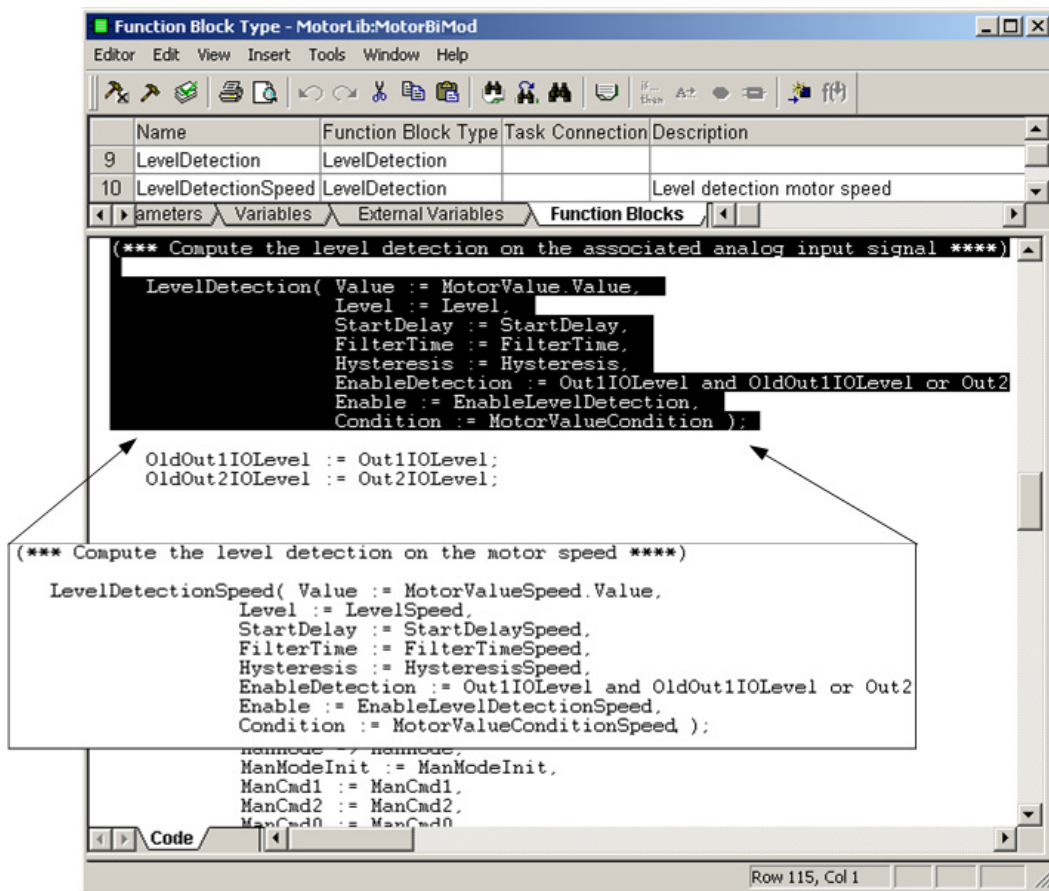

Figure 136. Level detection functionality added to the MotorBiMod function block type
4. According to Figure 136, declare the new function block (LevelDetectionSpeed), change the function block name in the code pane and declare the required variables. Connect the parameters by right-clicking on the function block in the code pane and selecting **Edit>Parameter list** (Ctrl+M).